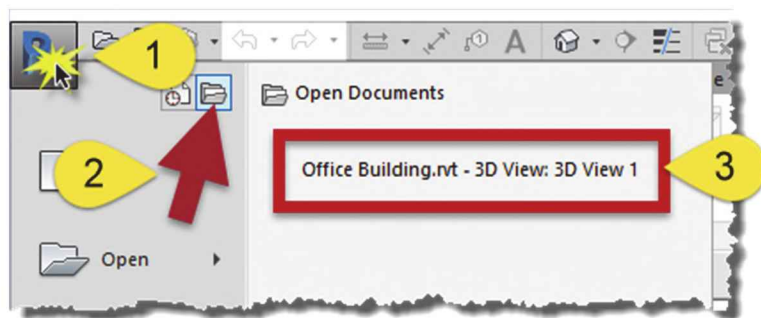

Figure 1-3.5 Application Menu: Open Documents view
The *Application Menu* lists the projects and views currently open on your computer (Figure 1-3.5).
4. Click **Application Menu → Open Documents (icon)** (Figure 1-3.5).